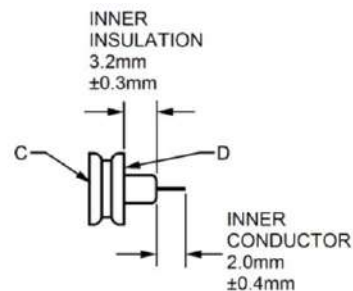

Figure 12-68 Attaching Outer Shell to Gasket
53. When assembling triaxial cable connectors to wire or cable, refer to Figure 12-65 through to Figure 12-68.
- m. Cut inner insulation and inner conductor to dimensions shown in Figure 12-68.